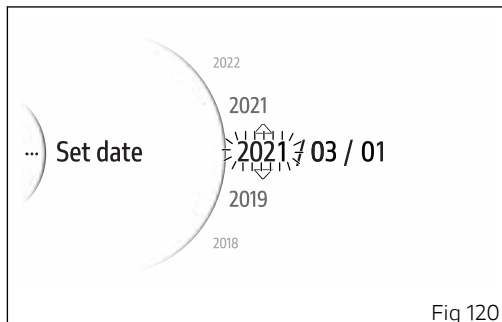

Fig 120
- Use buttons (1) and (2) from the Interactive Menu to select the "Setting menu" item and press ENTER (3).
- Select the "Date and time" item and press ENTER (3).
- Select the "Set date" item and press ENTER (3).
The first parameter of the date (Fig 120) starts flashing and is displayed with two arrows placed above and below it; the available values for the selected parameter are also displayed. Use buttons (1) and (2) to scroll and select the desired value. Press ENTER (3) to confirm and move on to the following parameter.